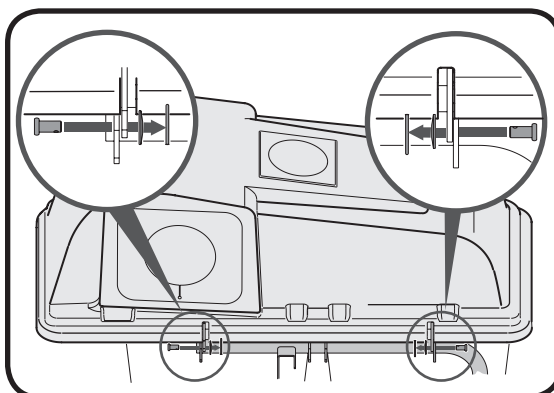

Figure 20
*Insert the clevis pins from the outside in as shown in the inset images of Figure 20.*
4. Insert the clevis pin through the hinge on the support tube assembly and then through the grass bag cover. See Figure 20.
5. Secure with belleville washer and hairpin clip with the crown side of the washer going against the hairpin clip. See inset images in Figure 20.
**NOTE:** *Insert the clevis pins from the outside in as shown in the inset images of Figure 20.*